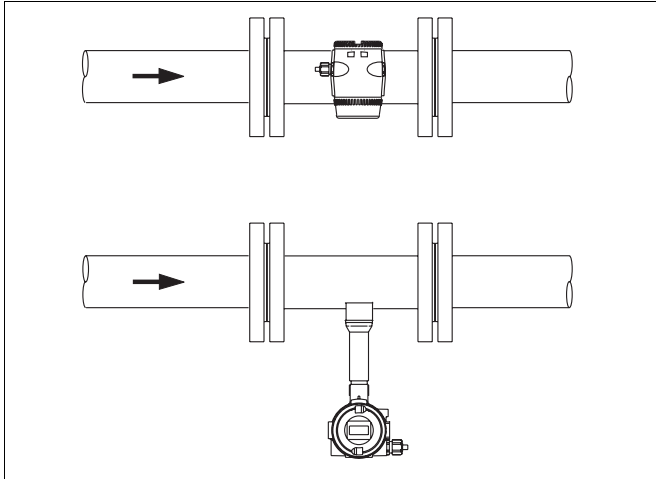

Fig. 12: Installation for High Fluid Temperatures
- In horizontal installations with fluid temperatures > 150 °C see Fig. 12 for installation requirements.